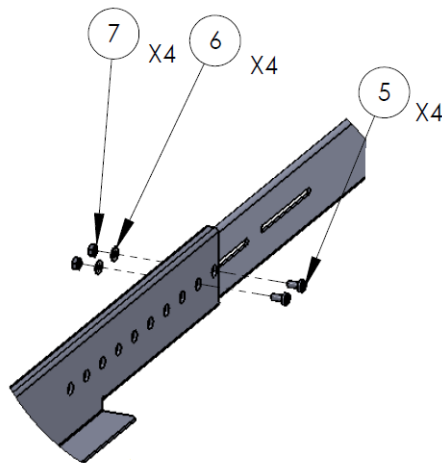

Figure 1-4 Detail of Left Rail Runner (front internal view)
- 5 Install the flat head screw  (item 5), flat washer  (item 6) and nut spring  (item 7) in the middle of the telescopic rack rail runner for added stability as shown in Figure 1-4.